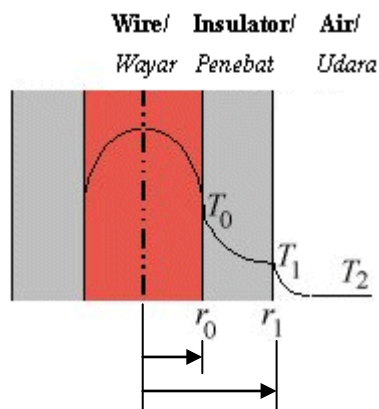

Figure 4 - Heating of an insulated electric wire
- [b] An electric wire with radius r_0 of 0.50 mm is made of copper [electrical conductivity = $5.1 \times 10^7 \text{ ohm}^{-1} \text{ m}^{-1}$ and thermal conductivity = 380 W/(m K)]. It is insulated to an outer radius r_1 of 1.50 mm with plastic [thermal conductivity = 0.35 W/(m K)]. See Figure 4. The ambient air is at 30.0°C and the heat transfer coefficient from the outer insulated surface to the surrounding air is 8.5 W/(m² K). Determine the maximum current that can be flown at steady-state in the wire without any portion of the insulation getting heated above its maximum allowable temperature of 95.0°C.